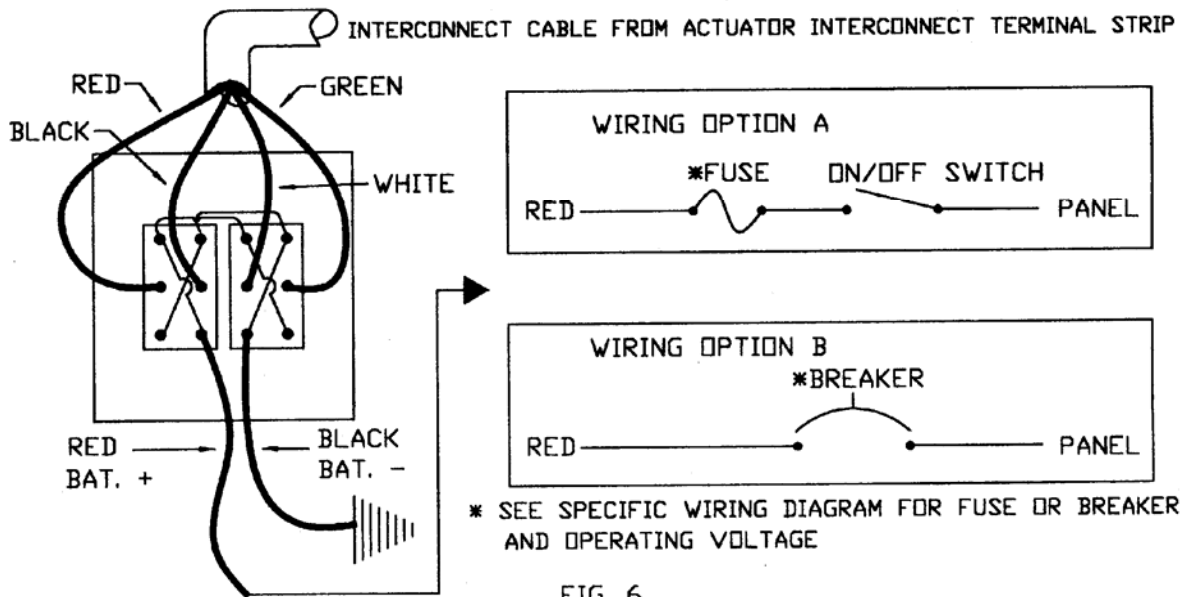

FIG. 6
Connected to the back of the control is a RED and BLACK wire pair which is to be connected to the boat's power through a breaker or through a slow blow fuse and ON/OFF switch, RED to positive (+) and BLACK to negative (-); See figure 6. Do not power the tabs from the boat's ignition switch; go directly to the boat's D.C. panel. Typically the ignition switch circuit may not handle sufficient amperage for both tabs to operate simultaneously under heavy load.
Also, on the back of the control, at the center of each of the two switches, are a total of four push-on terminals to which the four wires from the interconnect terminal strip will connect. See figure 6.
*The 4-conductor cable supplied by Lectrotab is made up of 4 AWG #14 conductors in Black, White, Red and Green. One end is supplied with push-on terminals meant to be connected to the control, per figure 6. The other end is meant to be cut to length or extended, fitted with ring or snap fork terminals and connected to the interconnect terminal strip per figure 5.*
1. Confirm D.C. Voltage (12 or 24 as appropriate) at the black and red power input wires at the back of the control. See figure 6.